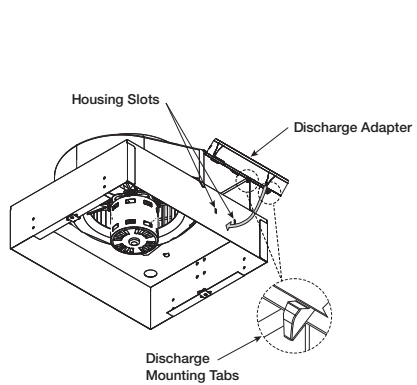

Figure 2
2. Rotate discharge adapter until the two mounting tabs fully engage into the housing slots, shown in Figure 2.